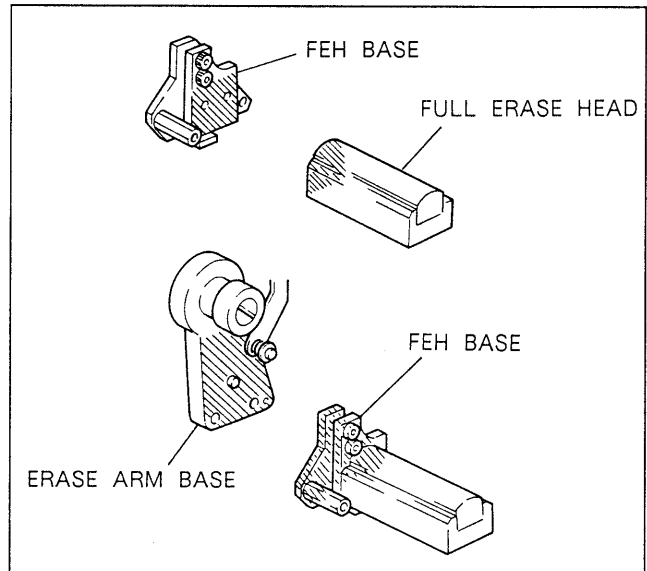

Fig. 6-18-4. Cleaning of each Mounting Surfaces
- 1) Cleaning of Mounting Surface (See Fig. 6-18-4.)